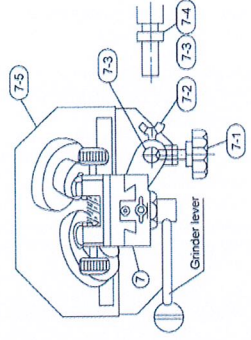

Fig. 7
2. As shown in Fig.7, pull the grinder lever to start grinding.